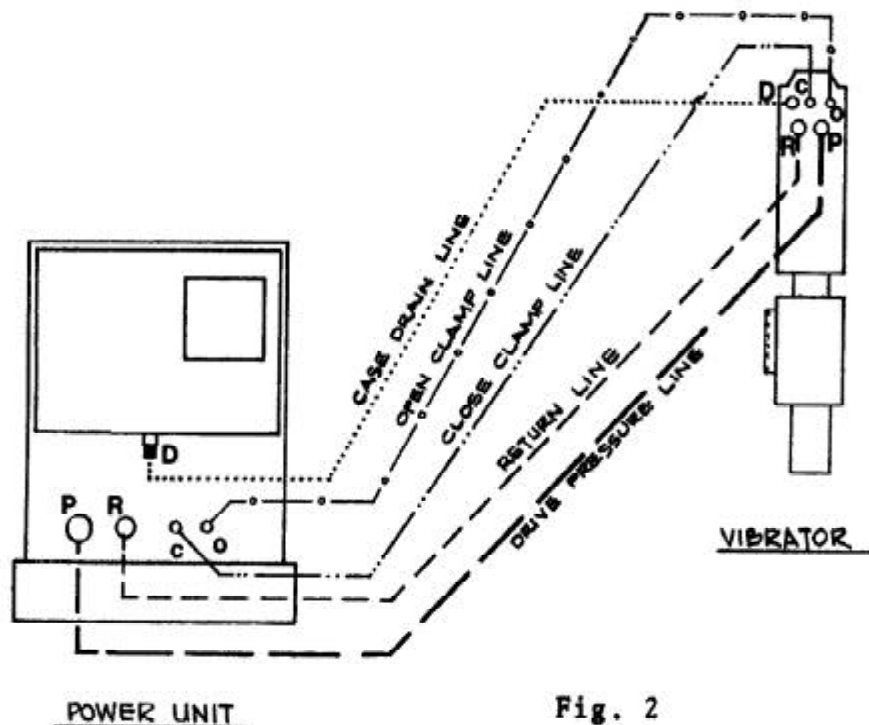

Fig. 2
- a. The vibrator and hydraulic clamp are connected to the power unit by five hydraulic lines (Fig. 2).
- a. The vibrator is usually shipped with the hoses attached to the vibrator. If the hoses have been shipped separately, they must be connected. The diagram on page II-3, (Fig. 2), shows the correct arrangement of the five hose lines connecting the power unit to the vibrator.